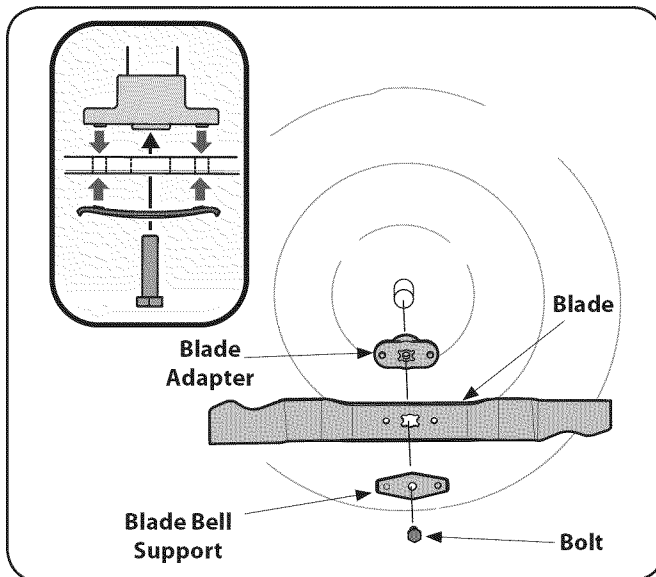

Figure 7-1
2. Remove the bolt and the blade bell support which hold the blade and the blade adapter to the engine crankshaft. See Fig. 7-1.
3. Remove blade and adapter from the crankshaft. See Fig. 7-1.
5. Lubricate the engine crankshaft and the inner surface of the blade adapter with light oil. Slide the blade adapter (and wave washer, if applicable) onto the engine crankshaft. Place the blade on the adapter such that the side of the blade marked "Bottom" (or with part number) faces the ground when the mower is in the operating position. Make sure that the blade is aligned and seated on the blade adapter flanges. See Fig. 7-1 inset.